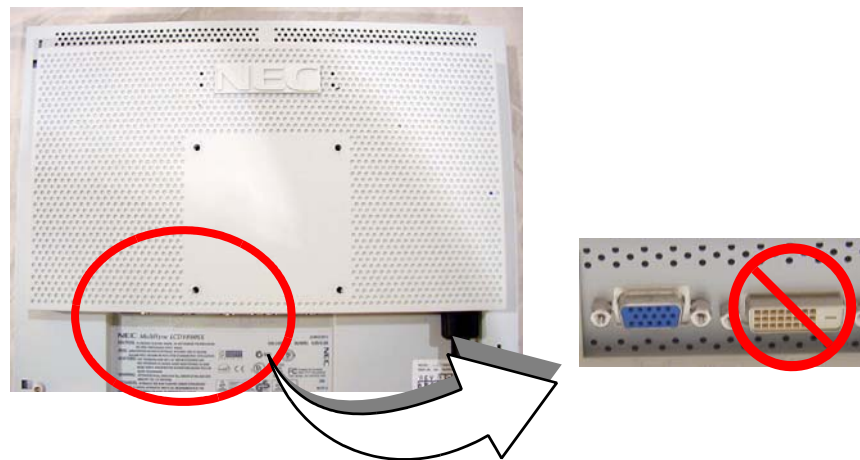

Figure E-4 Image Monitor (Your actual monitor may appear different from picture.)
- 2.) With the monitor and computer switched off, remove the video cable from the back of the image monitor. See Figure E-4. (The monitor shown below may appear different from the one you have.) Remove this cable from the HP computer video connector. Discard this cable. If the monitor has BNC connectors, remove them.